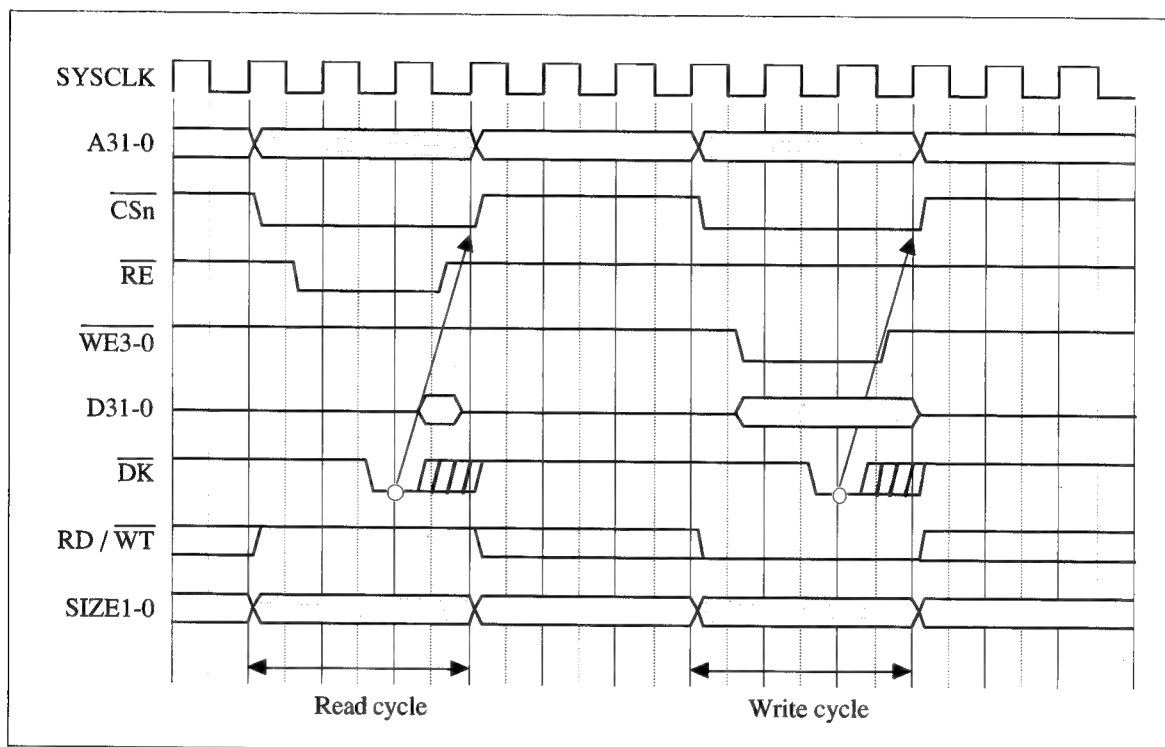

Fig. 5-8-6 Timing for Bus Access by 32-bit Bus Handshaking
Fig. 5-8-6 is a timing chart for an access with a 32-bit bus and handshaking specified. When handshaking is specified, the data acknowledge signal (DK) is sampled at the rising edge of SYSCLK, and if it is asserted the bus access ends at the next cycle. Note that when the DK signal is found to have been asserted, it is not sampled in the next cycle. Bus access termination by handshaking is valid only in synchronous mode.